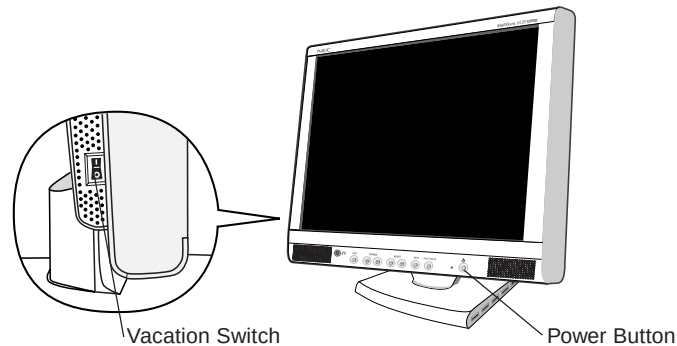

Figure H.1
8. The Vacation Switch on the left side of the monitor must be turned on (**Figure H.1**). Turn on the monitor with the Power Button and the computer.